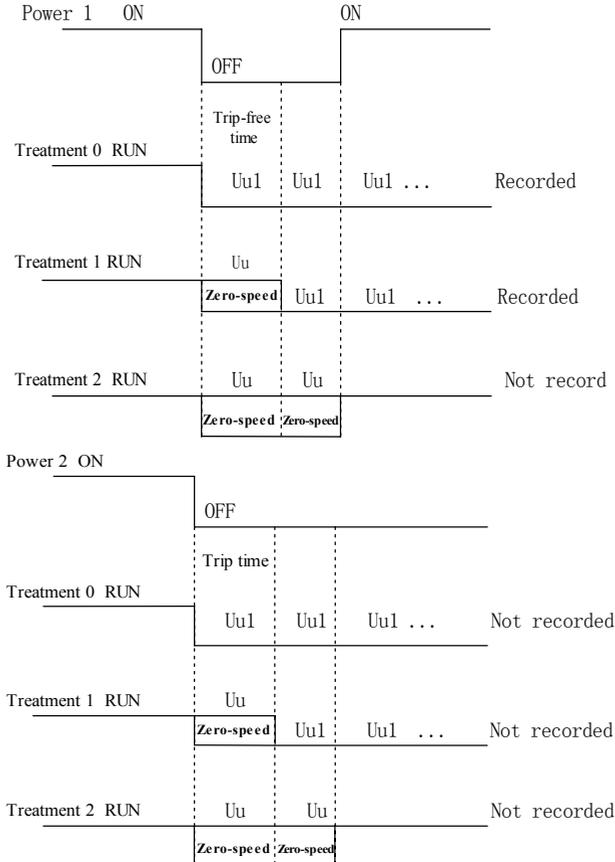

Fig. 5-1-7 Trip-free diagram
- ◆ If under voltage occurred in trip-time, the ac drive will display Uu alarm only, and the motor cannot startup at this time. As shown in Fig. 5-1-7:
- ◆ If under voltage occurred in running, the ac drive will display “Uu” alarm and “Uu1” fault, as shown in Fig.5-1-7. And PWM output inhibited, motor runs at zero-speed. If the voltage recovered, “Uu” alarm will disappear, If Uu1 fault occurred, the ac drive will stop. If the voltage continues to drop to below 300V, a failure history record or a fault output will not happen. However, if the voltage restored, the system will record the Uu1 fault.